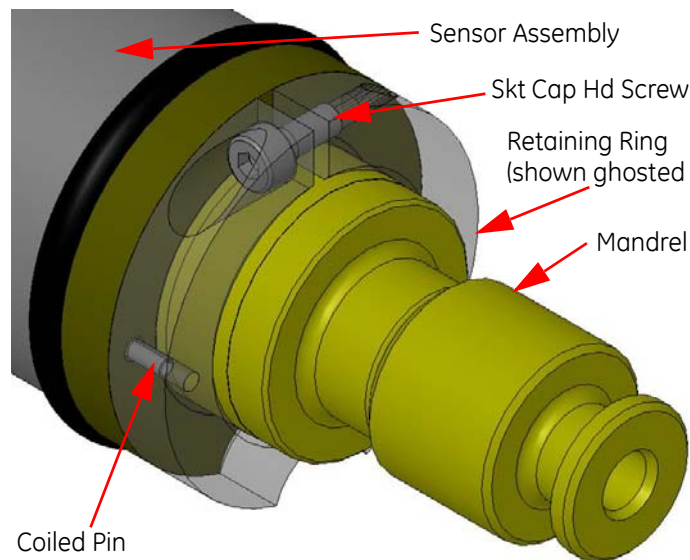
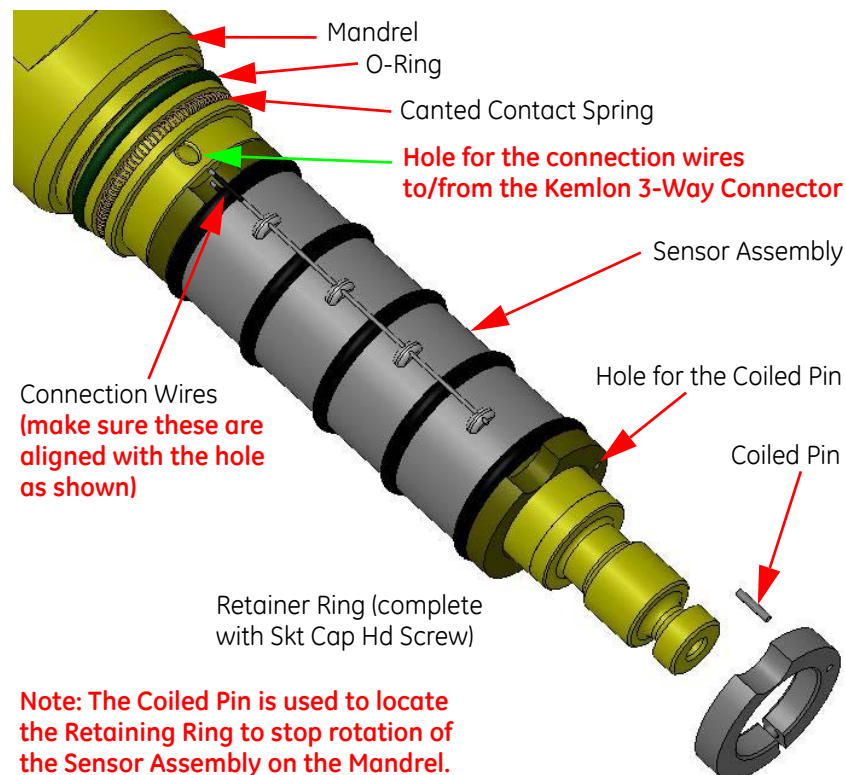

Figure 5-21 Retaining Ring installation
Figure 5-22 Sensor Assembly located correctly on the Mandrel
- 2 Make sure the In-Line Electronics Chassis Assembly (item 2, 416026) is removed. Refer to Section 5.3.1, Removal.
- 3 Refer to Step 3 through Step 8 of Section 5.4.13, Removal of the Kemlon 3-Way Connector to remove and retain the Piston Housing (item 12) from the Mandrel (item 9).
- 4 With reference to Figure 5-21, release but do **not** remove the Skt Cap Hd Screw (item 22) in the Retaining Ring (item 13) that secures the Sensor Assembly (item 1) on the Mandrel (item 9).
- 2 Where applicable, use a solder iron and **SN100C** solder to disconnect any 1MΩ resistor (**P/N: R001-0001M**) that is attached to the two wires of the Sensor Assembly (item 1). The resistor is used to prevent a charge build-up across the crystals of the Sensor Assembly.
- 3 With reference to Figure 5-22, locate the Sensor Assembly on the Mandrel (item 9) with the connection wires toward the upper end of the Mandrel.
- 4 Make sure the Coiled Pin (item 21) is installed in the Retainer Ring (item 13) and is not pushed through the Retaining Ring (see Figure 5-21).
- 5 Locate the Retaining Ring on the lower end of the Mandrel (item 9) and make sure the Coiled Pin inserts correctly in the Sensor Assembly (item 1).
- 6 With reference to Figure 5-22, make sure the wires from the Sensor Assembly are aligned with the wires from the Kemlon 3-Way Connector (item 33).
- 8 Tighten the Skt Cap Hd Screw (item 22) to secure the Retaining Ring on the Mandrel. Make sure there is **no** movement of the Sensor Assembly after the Retaining Ring has been secured in position.
- 10 Apply a thin film of Liquid-O-Ring® type 101 (P/N: LOR101) to the new O-Ring (item 26) and to the groove for the O-Ring on the upper end of the Mandrel.